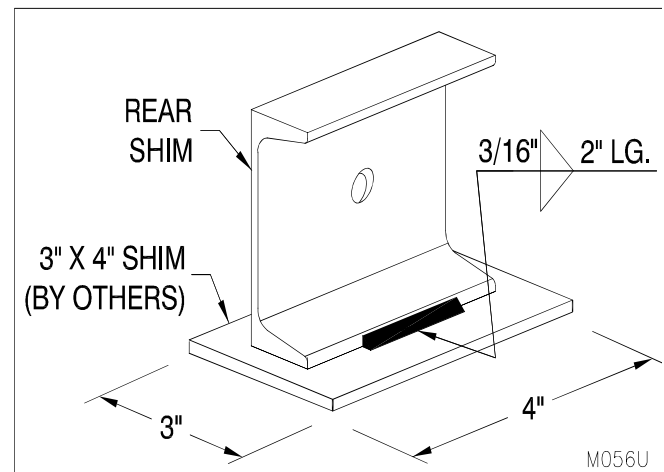

Figure 22: Rear Shim (4" Shim Kit Shown)
1. For 3" or 4" shim kits, weld two rear shims (see Table A) to a single shim plate each (3" x 4" x minimum ASTM A-36 or CSA G40.21 supplied by others) as shown in "Figure 22: Rear Shim (4" Shim Kit Shown)" on page 17. This step adds stability to the shims while installing the dock. This step is not required for 1" or 2" shim kits as the blocks are sufficiently stable as supplied.